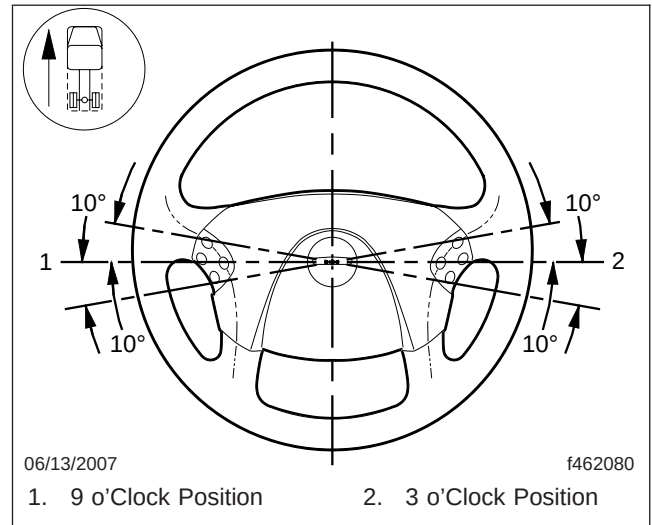

Fig. 1, Steering Wheel Centered
5. Test drive the vehicle. Check the steering wheel spoke position. If, during straight-ahead driving on a level road, the steering wheel spokes are not within ± 10 degrees of the 9 o'clock and 3 o'clock positions, remove the steering wheel and reposition it. See Fig. 1.